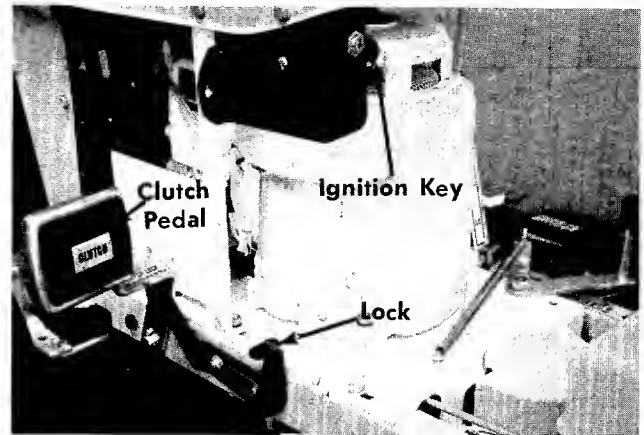

FIGURE 9. LEFT SIDE OF MOWER
- F. The Clutch Pedal is operated with your left foot. The Clutch Pedal, when depressed, disengages the engine from the transmission so you can stop the movement of the rider mower to shift gears. The Clutch Pedal can be locked in the DISENGAGED position by depressing the Clutch Pedal and lifting the clutch lock with your left hand. To release the Clutch Pedal, depress it with your foot. See figure 9.